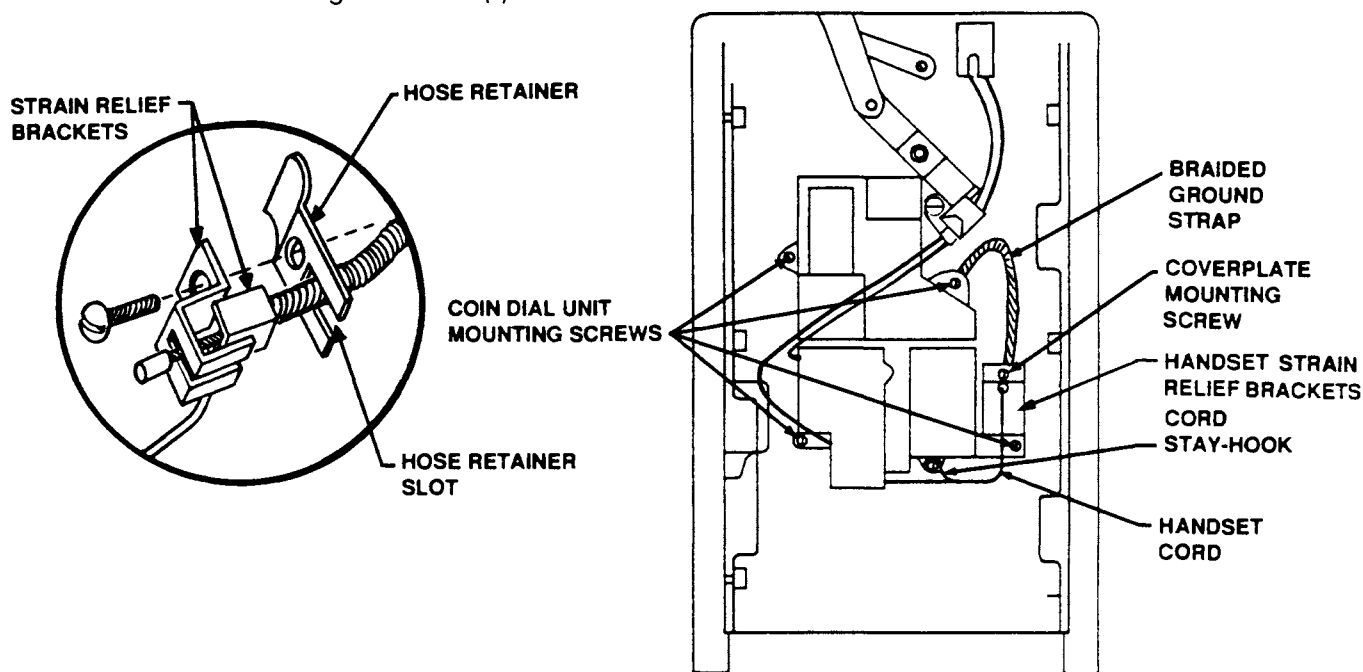

Figure 23 Coin Dial Unit
2. Refer to Figure 23.
1. Refer to Figure 23.